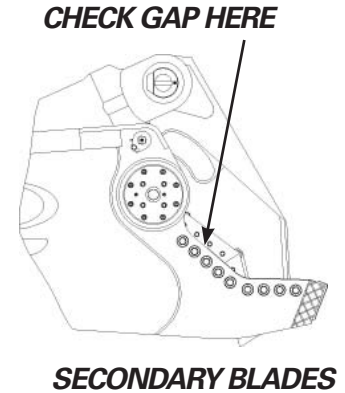

FIGURE 5-19
3. Close the shear further until the primary blades begin to bypass (see **Figure 5-19**). Again, check to see how many shims can be slipped between the blades (or use the feeler gauge). Record this gap also. If the blades have been rotated properly at the correct intervals, the blade gap should be even over the entire span of the blades. If the gap is not even, contact your Stanley LaBounty dealer.